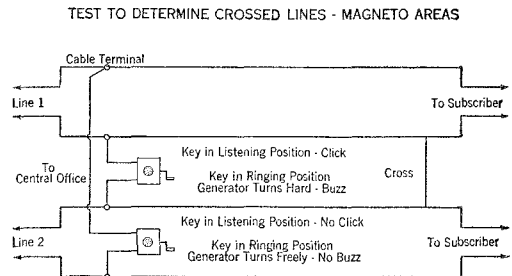

Fig. 14
**5.07** When one of the crossed lines is unknown and no test deskman is on duty, the following test can be applied to identify the unknown line with which the known line is crossed. (See Figure 14.)